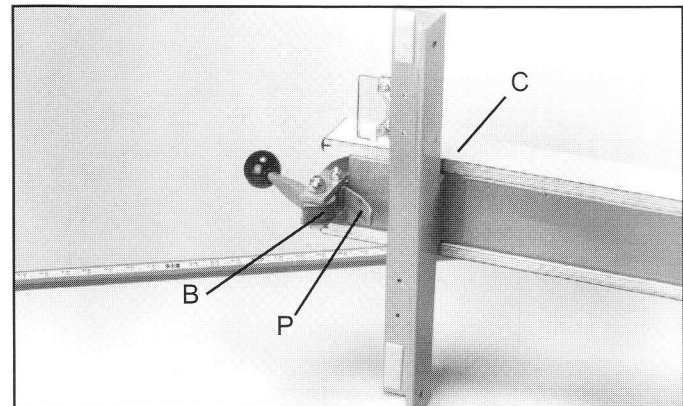

Fig. 29
6. When clamping the fence assembly (C) to the guide tube, make certain the camfoot (P), Fig. 29, is hanging down and against the locking handle (B), and not caught on top of the guide tube.